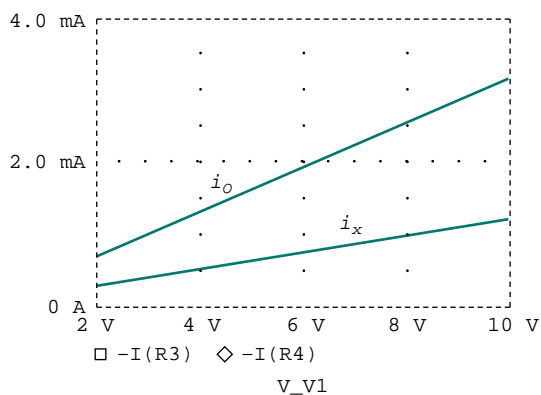

Figure D.24 Plots of  $i_x$  and  $i_o$  versus  $V_1$ .
**Answer:** The plots of  $i_x$  and  $i_o$  are displayed in Fig. D.24.